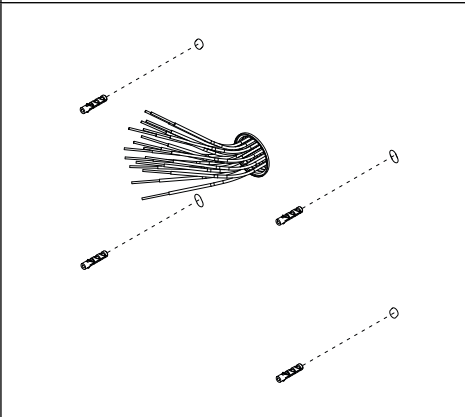
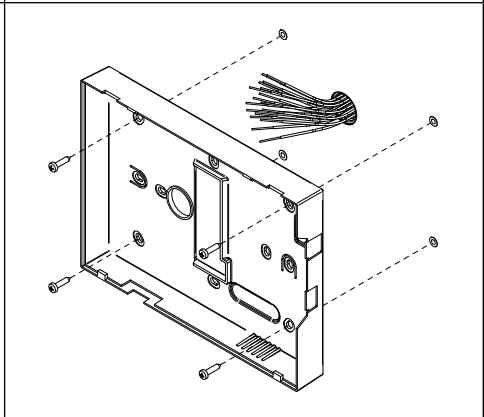

Fig. 5
Fig. 6
2. As shown in Fig. 5 and Fig. 6, fix the back cover of the videophone to the flush mounting box keeping the same orientation shown in the figure and taking care to feed the connection cables through the specific circular opening;